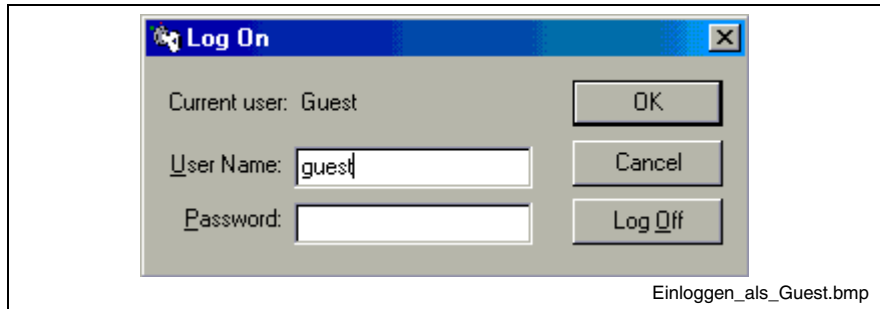

Fig. 6-6: Logging on as guest
- Fig. 6-6: Logging on as guest 6-5